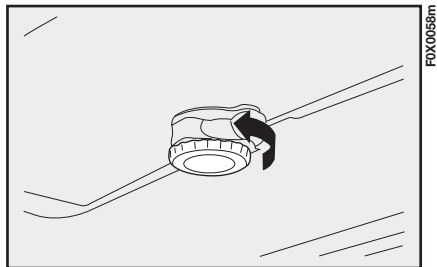
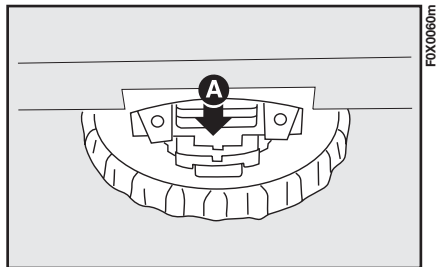

fig. 78
fig. 79
Turn the ring nut in fig. 78 in the direction indicated, so that the sun roof can be opened to the desired position.
- release the red stop fig. 79, applying light pressure as indicated (this operation must be carried out using the end of the screwdriver in the tool bag, located under the passenger seat);
To refit the sun roof glass, carry out the removal procedure in reverse, making sure that it is correctly inserted into both the front housing and the stop fig. 79. Apply light pressure to the back of the glass, until it clicks into place; then rotate the ring nut fig. 78 twice (in the opposite direction to that for opening).